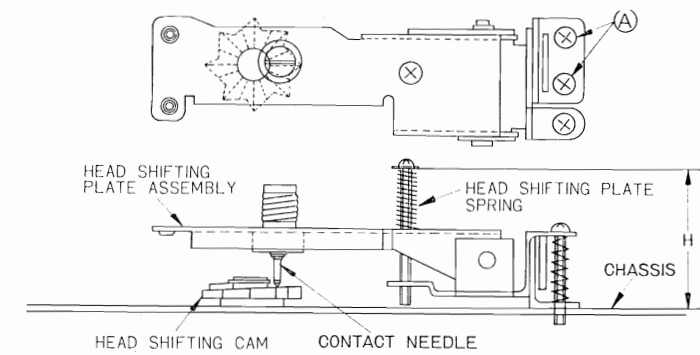

Fig. 17
- (2) After installation assure that dimension H shown in Fig. 17 is 33.5mm. Also assure that deflection of the head shifting plate spring under this state is 2mm.